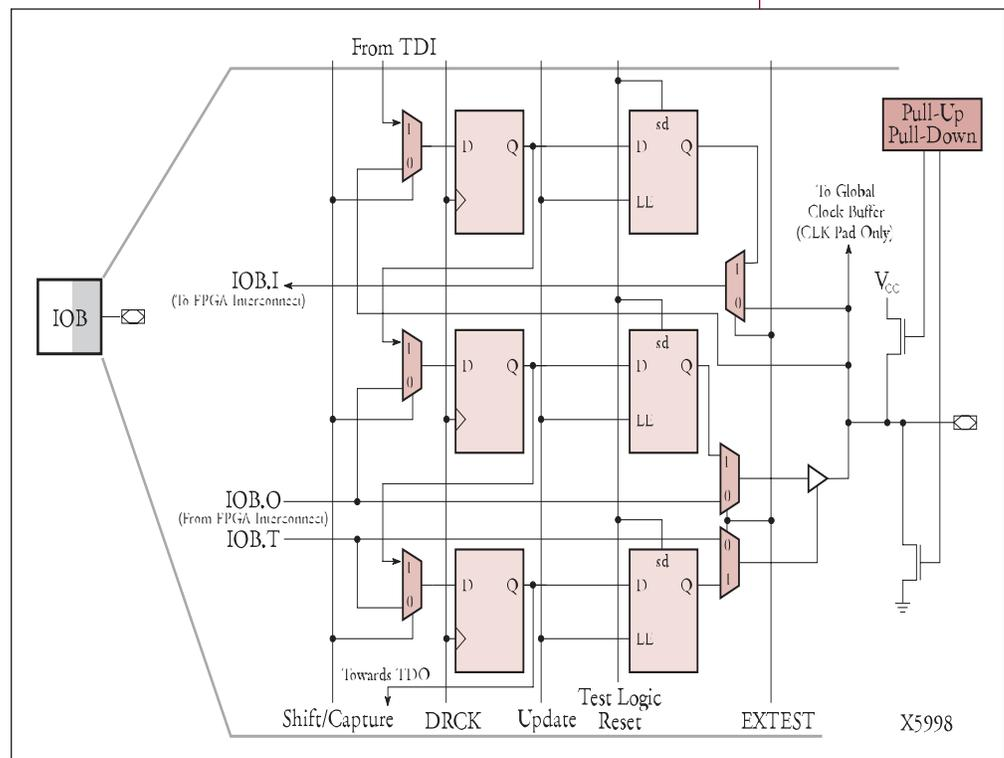

Figure 1 – Boundary Scan Logic
**Figure 1** shows the Boundary Scan Logic in a typical IOB. The Boundary Scan Data register (DR) is a serial shift register implemented in the IOBs. Each IOB can be configured as an independently controlled bi-directional pin. Therefore, three data register bits are provided per IOB: for input data, output data, and 3-state control.